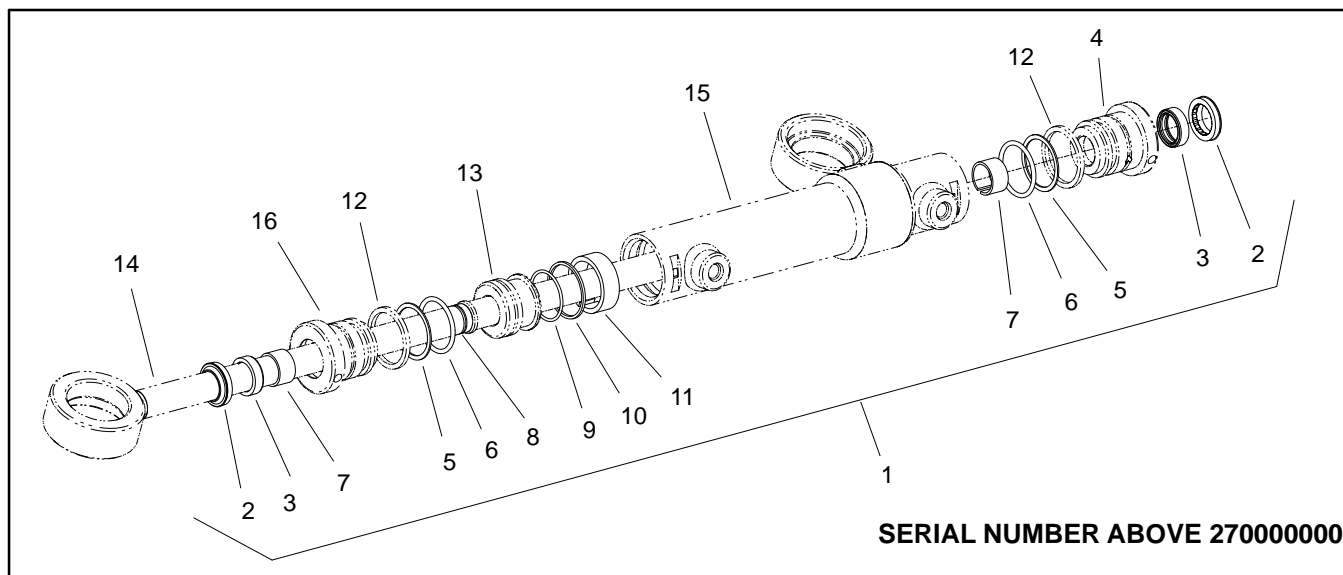

Figure 83
**NOTE:** On machines with serial number above 270000000 (Fig. 83), the steering cylinder design does not allow removal of the piston (item 13) from the rod. This cylinder design prevents replacing the O-ring on the inside of the piston and also the seals on the ball joint end head (item 16). If a steering cylinder leak exists on